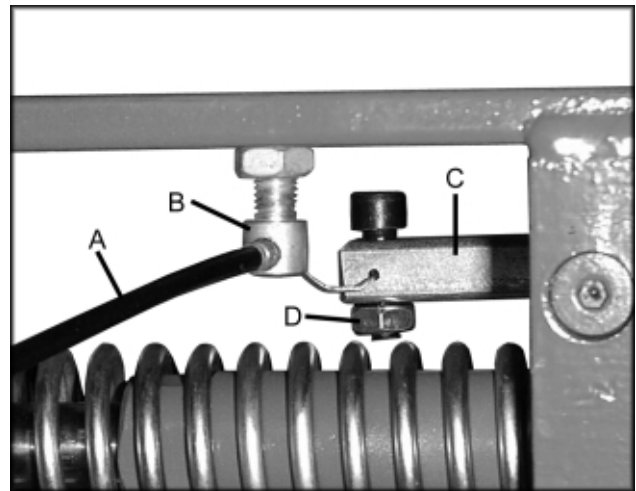

Fig. 4
4. Route the cable (A, Fig. 4) into the cable nut (B, Fig. 4). Run the cable through the lowering mechanism (C, Fig. 4) and pull the cable tight. Tighten the hex nut (D, Fig. 4) using a 14mm wrench.